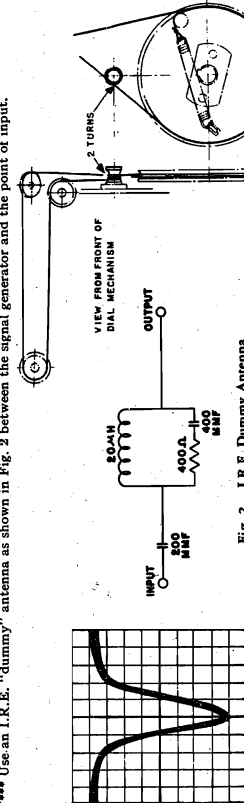

Fig. 2. I.R.E. Dummy Antenna
*** Use an I.R.E. "dummy" antenna as shown in Fig. 2 between the signal generator and the point of input.